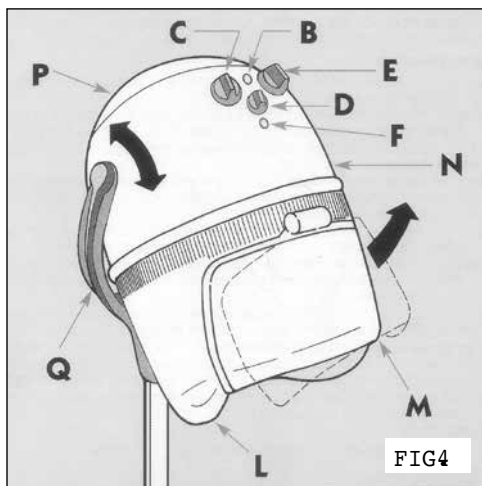

FIG4
**LEGENDA (FIG. 4)**
**LEGEND ( FIG. 4)**